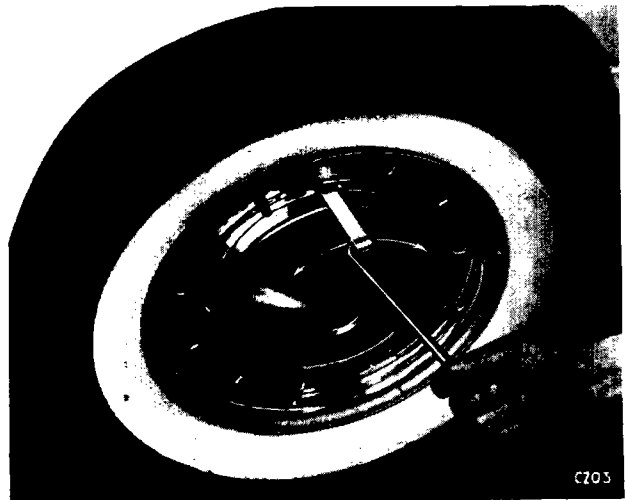

Fig. 4. Removing nave plate and wheel trim
3. To prevent damage, insert the lever (Fig. 4) into the slot formed on the inner periphery of the wheel trim, behind the nave plate. Twist the lever to remove the nave plate, lift off the wheel trim and loosen the wheel nuts one turn.